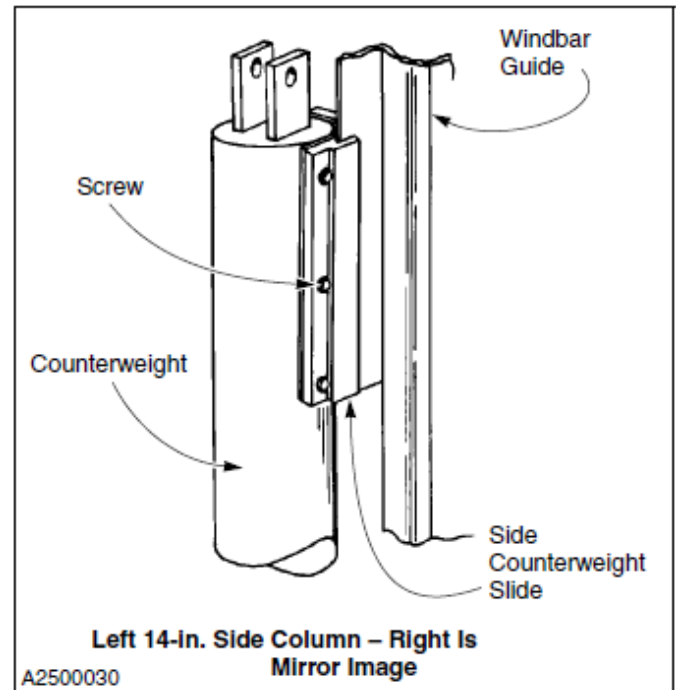
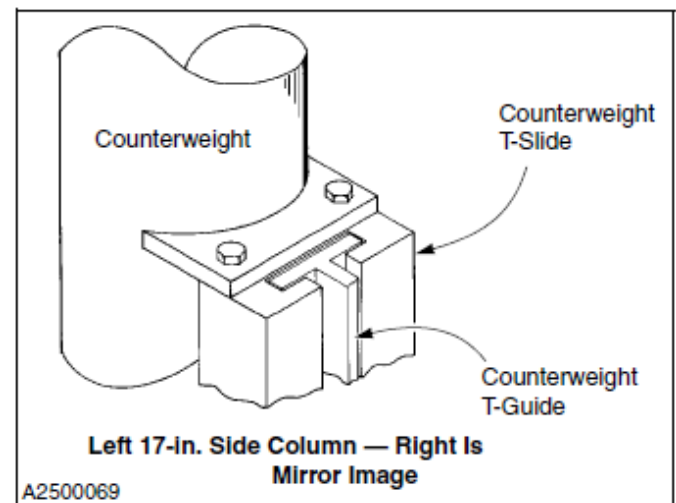

Figure 29
Figure 30
2. Check to ensure that all counterweight slides are properly attached and correctly placed in their respective mounting brackets. (See Figure 29 and Figure 30)